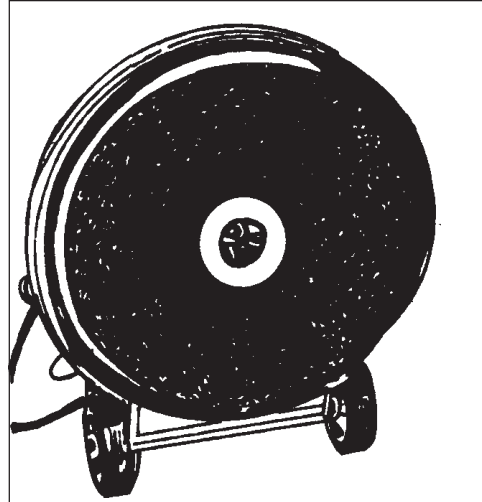

Figure 2
1. With the handle locked in the operating position, tilt burnisher back on the handle until the underside of the burnisher is fully exposed. (See figure 2).